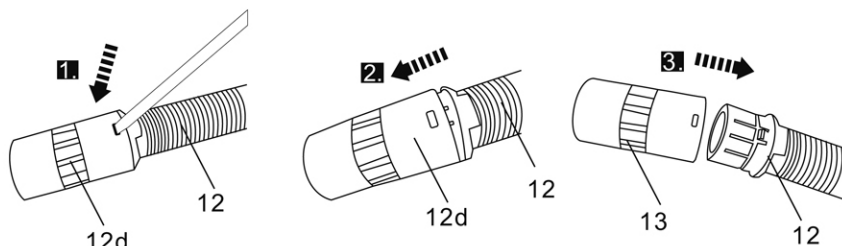

Fig. 8
6. To change the adaptor (**12d/13**), push the screw driver into the groove of vacuum adaptor all the way to stop (Fig. 8, step 1). In the meantime, remove the vacuum adaptor from vacuum hose (**12**) (Fig. 8, step 2).
7. Align the groove of vacuum adaptor (**13**) to the knob on the vacuum hose (**12**). Push the vacuum adaptor (**13**) into vacuum hose (**12**) all the way to stop (Fig. 8, step 3).